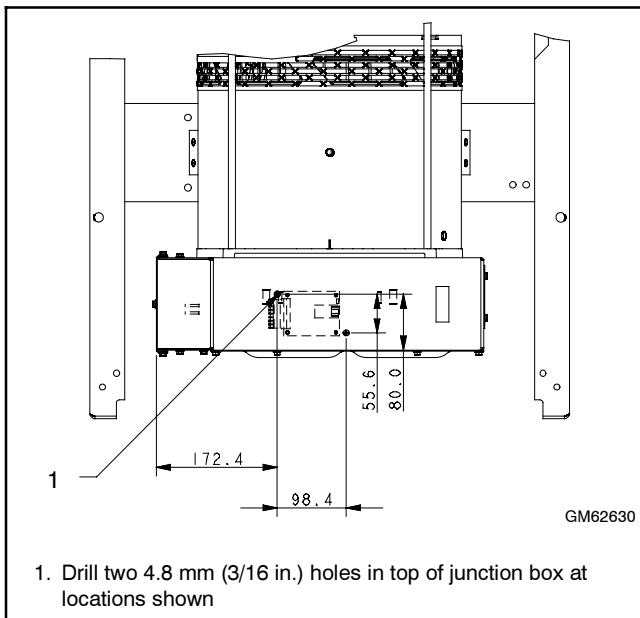

Figure 19 Network Bridge Mounting Hole Locations
- b. Drill two 4.8 mm (3/16 in.) mounting holes in the top of the junction box at the locations shown in Figure 19.